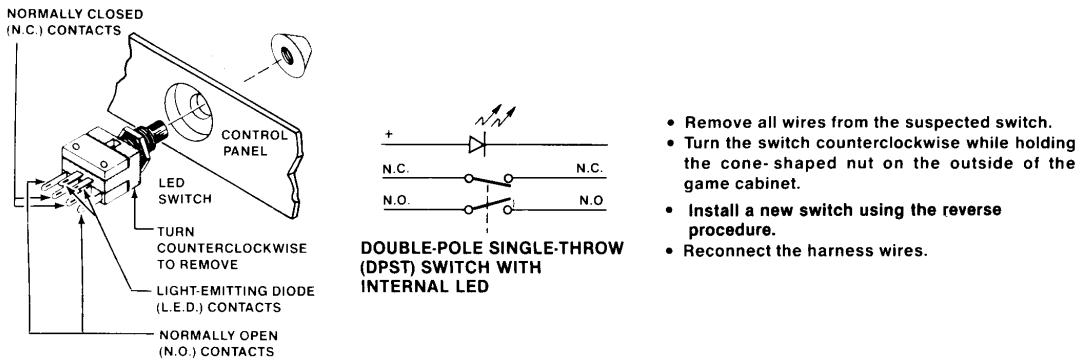

Figure 3-3 LED Start Switch Testing and Replacement
- Connect the meter leads to the appropriate switch contacts. (See Figure 3-3.)
- If the contacts do not operate "sharply" or if they always stay open or closed, replace the switch as described in Figure 3-3.